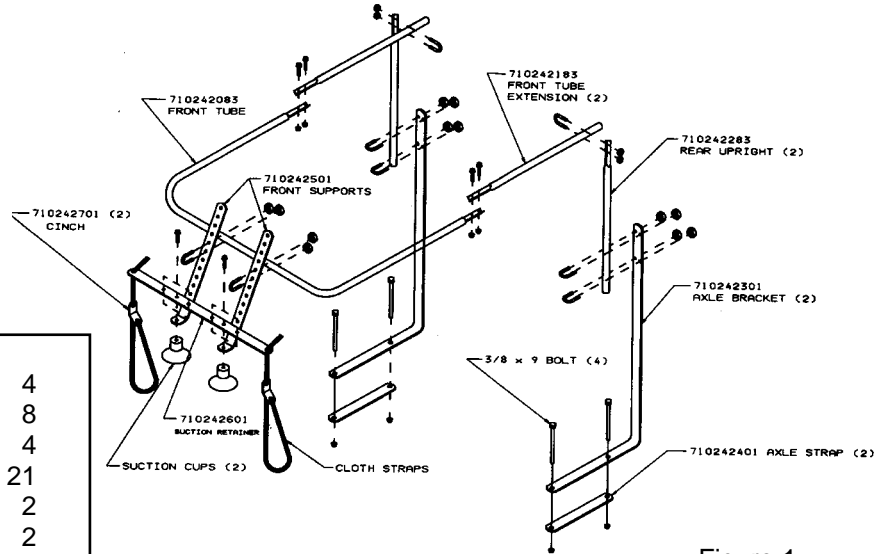

Figure 1
- Thread a piece of cloth strap through the end of #710242601 retainer (Figure 1) Tie a knot in the strap so it will not pull back through the hole. Thread the other end through a #710242701 cinch, down around a handle, frame or object on tractor and tie to other hole in cinch. Repeat for other side. Adjust both cinches to hold suction cups tightly on the tractor.